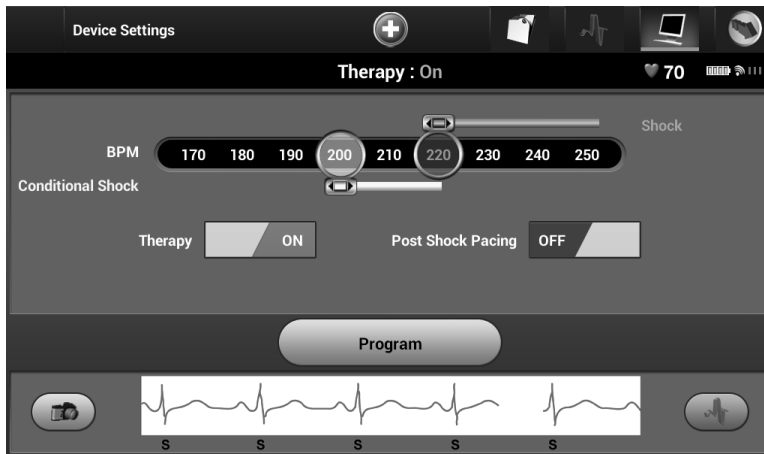

Figure 29: *Setting the On/Off Therapy switch*
4. Select the On/Off Therapy switch to set the desired therapy mode (Figure 29).